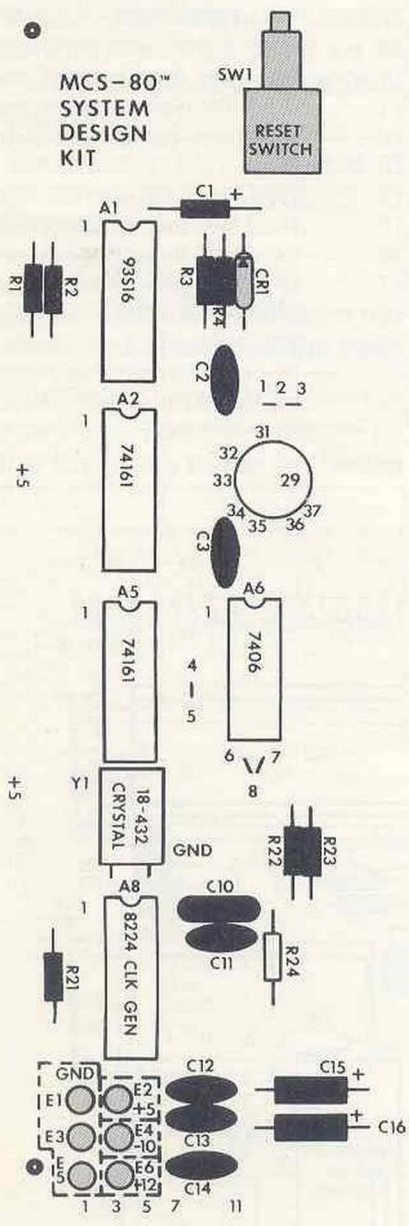

Figure 2-5. Construction Figure #3.
- Solder terminal lugs E1-E6 in place. Figure 2-5 shows the installation completed in the last three steps.